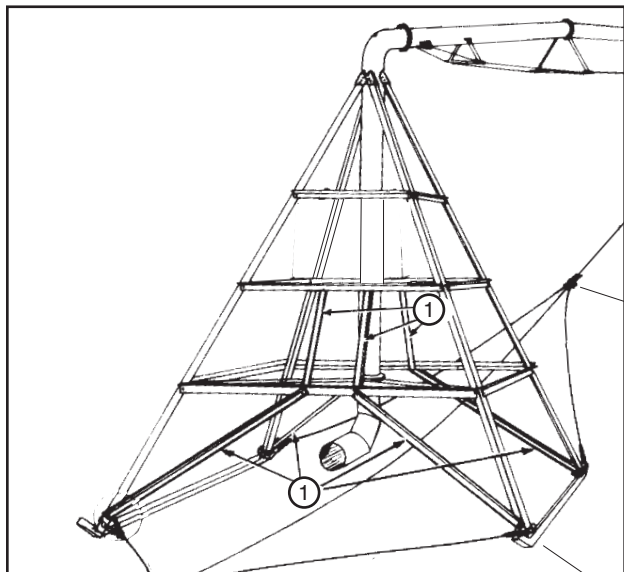

Figure 44-3 1. Tow Brace
10. Make sure that the skid pivot is equipped with tow braces. See figure 44-3.